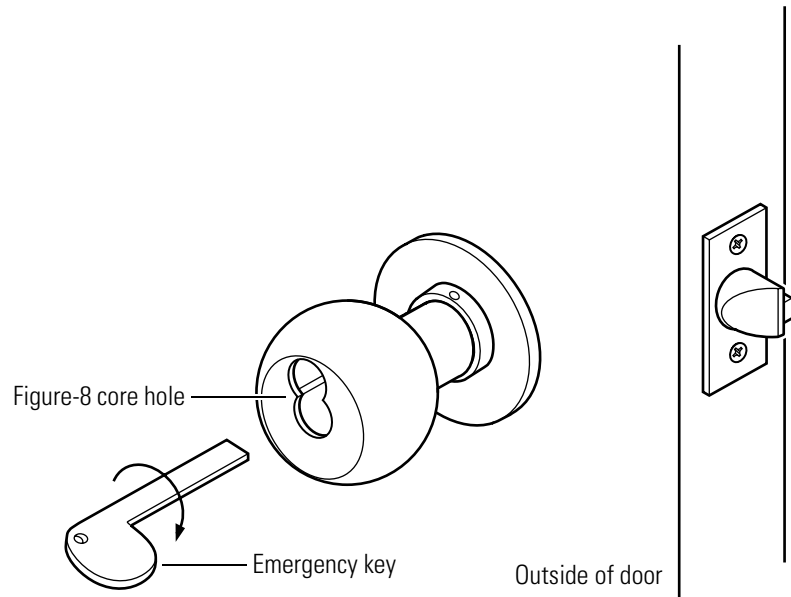

Figure 3.30 Inserting the emergency key
2. Insert the blade of the emergency key into the slot of the figure-8 core hole, as shown in Figure 3.30.